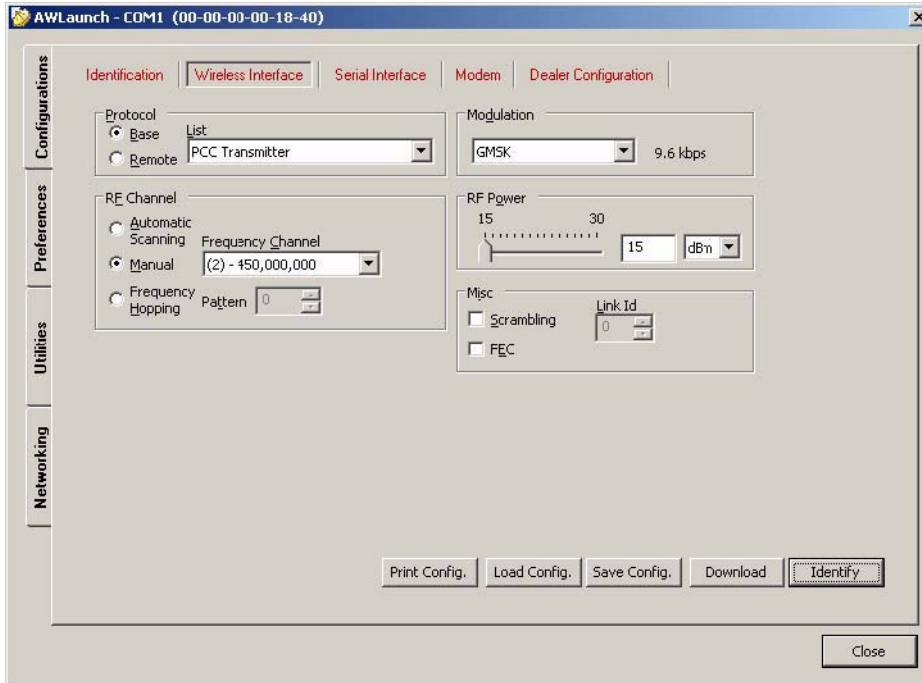

Figure 2-7. Configurations tab. Wireless subtab
- In the *Configurations* tab, *Wireless* subtab, set the following parameters (Table 2-1) and click *Identify* (Figure 2-7 on page 18). To save the changes click *Save Config.* button.